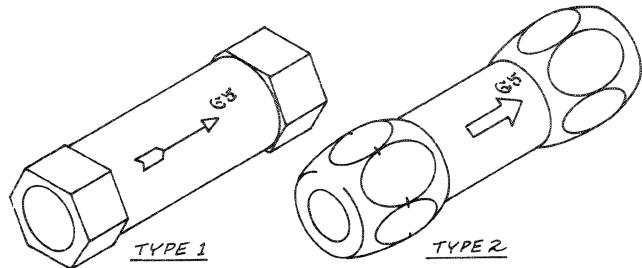
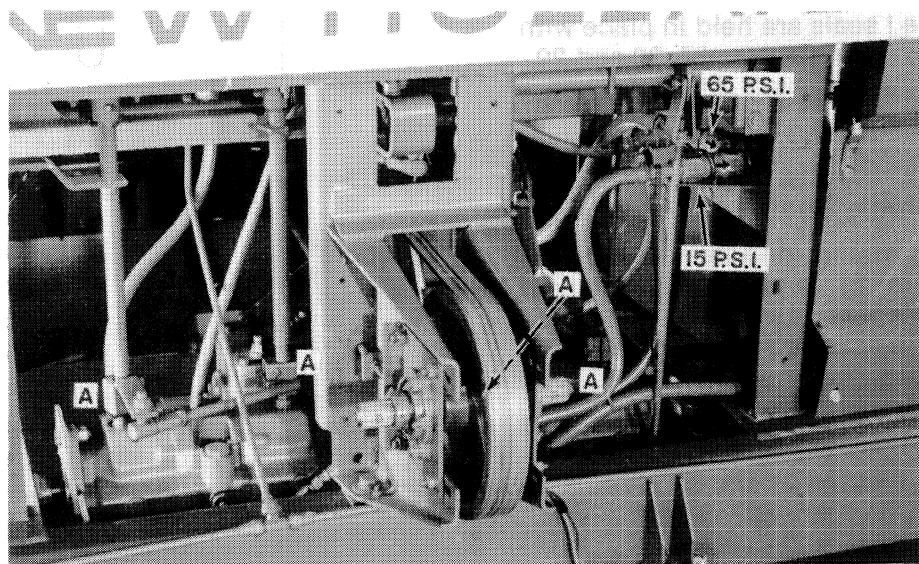
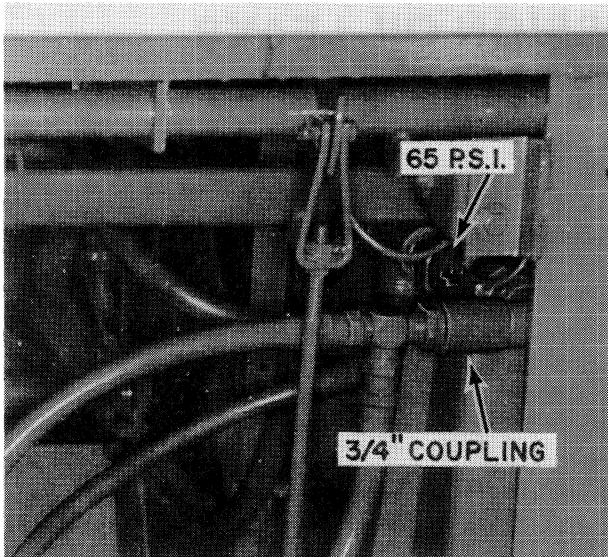

FIGURE 24
FIGURE 25
FIGURE 26
- (a) 65 psi check valve: No. 65 on outside of body indicates valve pressure rating. See Figure 24. On Type 1 valves, only the arrow shows direction of free flow. Type 2 check valves have these arrows and notches on the hex flats at the inlet end.
ATTENTION: All Model 912's, 1112's, 1114's, 1100's and 1495's must have a 65 psi check valve in the system. This valve is below the left front corner of the operator's platform. The arrow on this valve must point forward so oil can flow toward the tank. Figures 25 and 26 show the location of this 65 psi valve in the Models 912 and 1112/1114 respectively.
(b) Model 912's, 1112's and 1114's with Cessna transmissions do not require the 15 psi check valves shown in Figure 24. If Cessna transmissions leak at the pintle shafts on 912's or 1112's, remove the 15 psi valve, Figure 25, and replace it with a $\frac{3}{4}$ " pipe coupling, Figure 26.
(a) Pintle shaft seals can be replaced without removing the transmissions from the machine. Remove pintle arms, A, Figure 25, 37 or 38, as required. Clean the top of the transmission thoroughly.